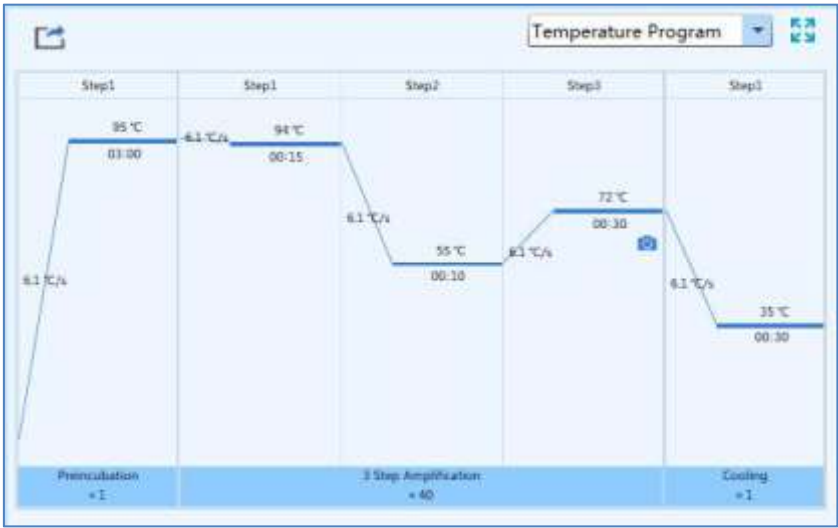

Figure D-7.2 Run Monitoring interface - Temperature Program function module
- 2. **Temperature Program**: display the temperature program of the current running experiment, as shown in figure D-7.2